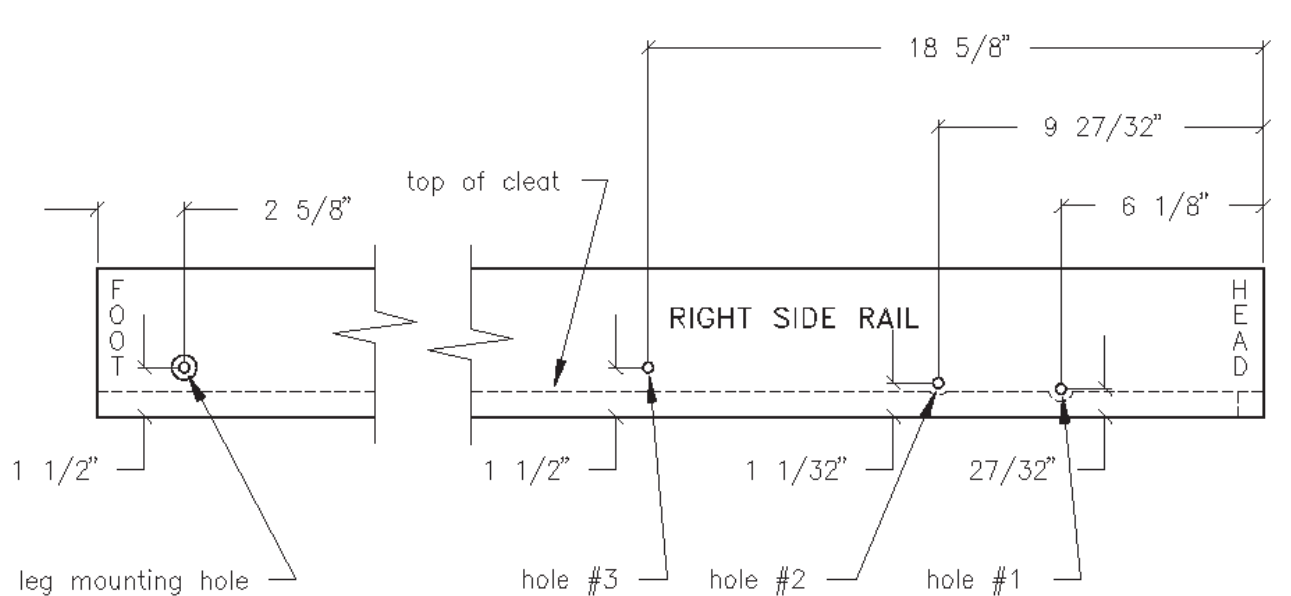

Figure 9. Locating the Lift Mechanism & Leg holes.
- Using a 1/16" bit, very accurately drill four pilot holes in each of the side rails. Three at the head end for the Lift Mechanism and one at the foot end for the leg attachment, see **Figure 9** for locations.